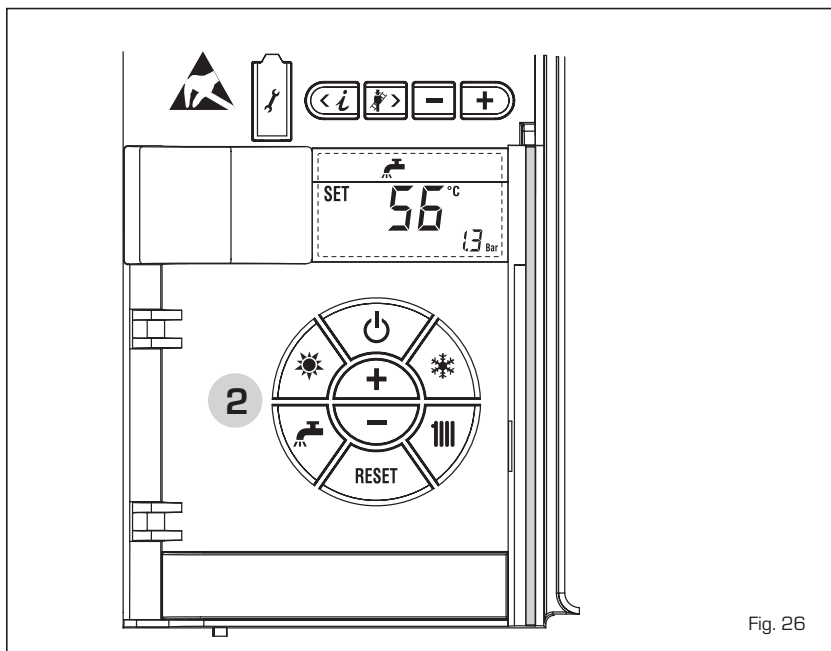

Fig. 26
1.3.3 Regulation D.H.W. temperature (fig. 26)
The display will be as shown in the figure 26.